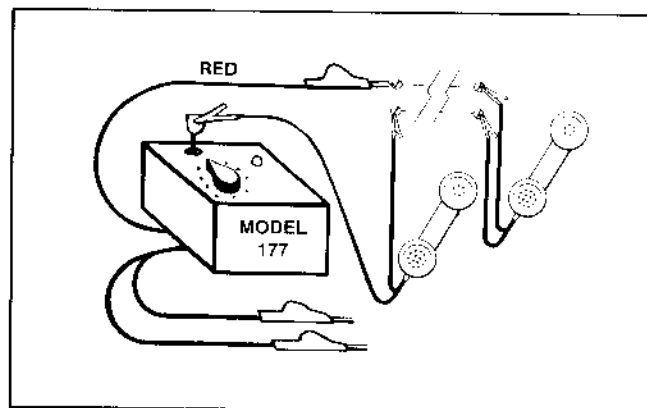

Figure 6 Connecting the Model 177 for "Talker Power."
3.05 The Model 177 supplies "talk power" for crafts-people to communicate on dead lines. Connect one lead of a handset to one side of the pair and the remaining lead to the post on top of the Model 177. The red lead of the Model 177 is connected to the remaining conductor of the pair. Turn the variable output knob to any "on" position 1-10. See figure 6. A low level background tone should be heard which indicates that the unit is functioning properly.